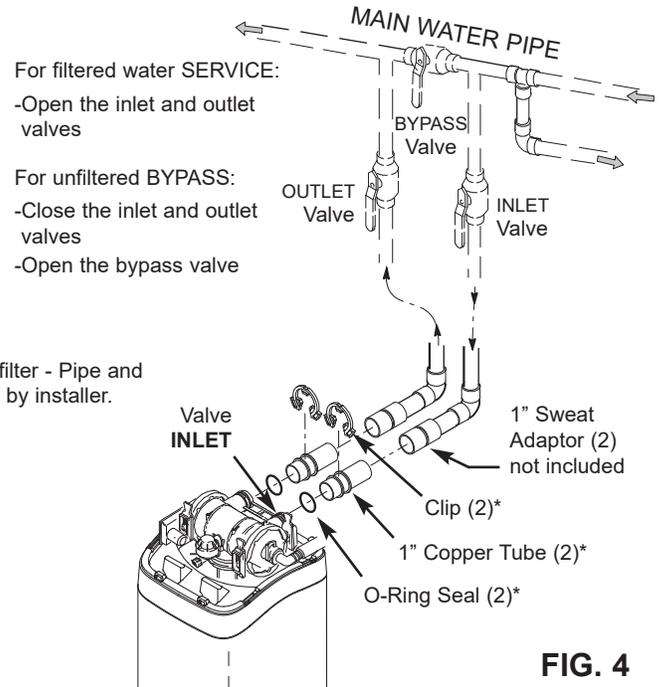

FIG. 4
- b. If installing a 3-valve bypass system, slide plastic installation adaptor and copper tube, with lubricated o-ring seals in place, into the valve inlet and outlet ports, respectively (See Figures 4 & 7B).
The house cold water pipe (metal only) is often used as a ground for the house electrical system. The 3-valve bypass type of installation, shown in Figure 4, will maintain ground continuity. If you use the plastic bypass, continuity is broken. To restore the ground, do the following:
- b. Place the bypass valve(s) in **bypass** position (See Figures 4 & 5 on Page 7).
- (1) **SINGLE BYPASS VALVE:** **Slowly** move the valve stem toward **service** position, pausing several times to allow the unit to pressurize slowly.
- (2) **3-VALVE BYPASS:** Fully close the **bypass** valve and open the **outlet** valve. **Slowly** open the **inlet** valve, pausing several times to allow the unit to pressurize slowly.